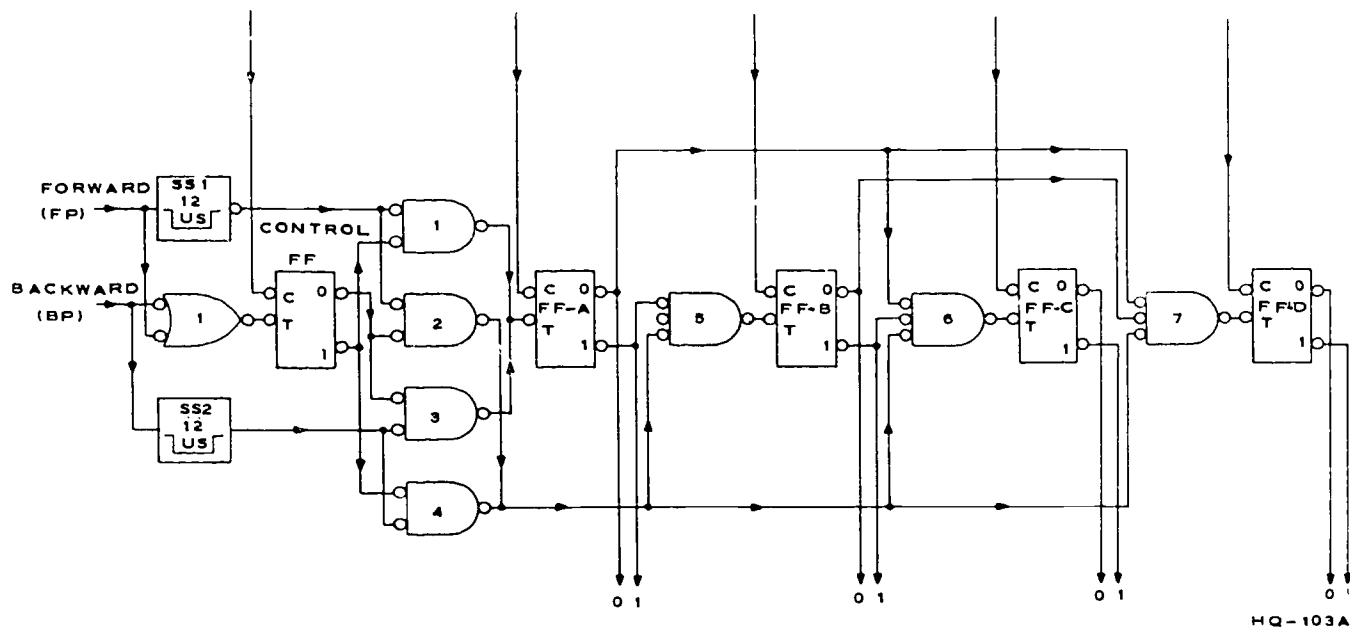

Figure 1-32. Gray counter.
Now that you understand the basic principles of a gray counter, look at the more complicated gray counter in figure 1-32. It counts in gray code and has the ability to count both forward and backward. The counter has this capability because it is used with an input keyboard to sequentially address a core memory. Each time a key is depressed on the keyboard, a character is stored in the core memory location selected by the counter, and a forward pulse (FP) is generated to step the counter ahead one count to the next memory address. If the operator depresses the wrong key, the error can be corrected by backspacing. The operator depresses the backspace key, thus generating a backward pulse. The backward pulse steps the counter back one count to reselect the memory location where the erroneous character was stored. By depressing the correct key, the operator destroys the data at that memory location and inserts the correct data. Before proceeding to the operation of this counter, note the following facts:
- b. Both the forward pulse (FP) and backward pulse (BP) are 1 millisecond wide and are negative-going.
5. On figure 1-32, what determines whether a forward pulse triggers FF-A or FF-B, FF-C, and FF-D as required?
6. On figure 1-32, what is required to enable AND-gate 3?